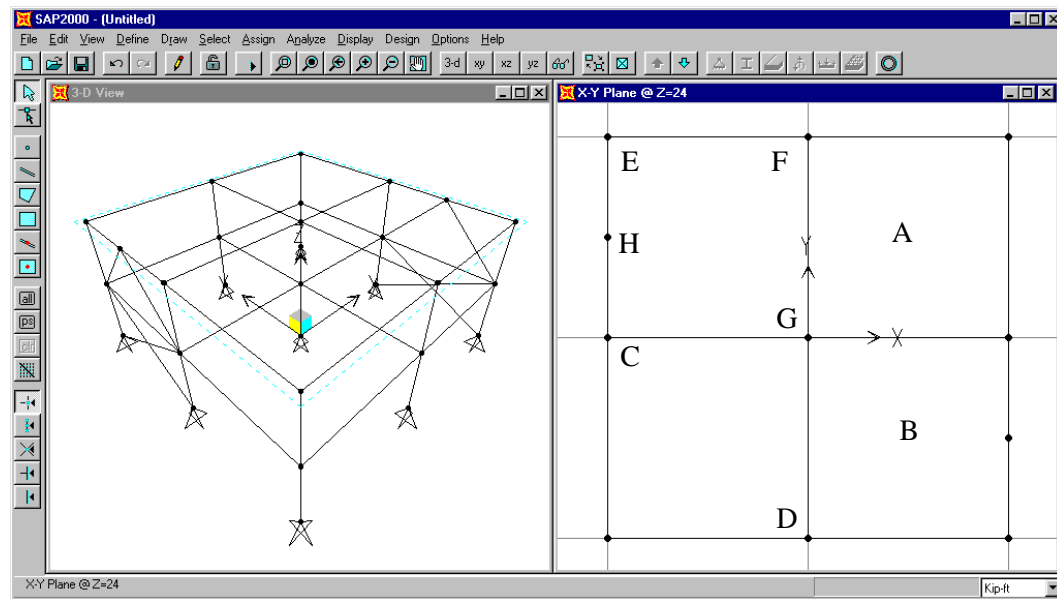
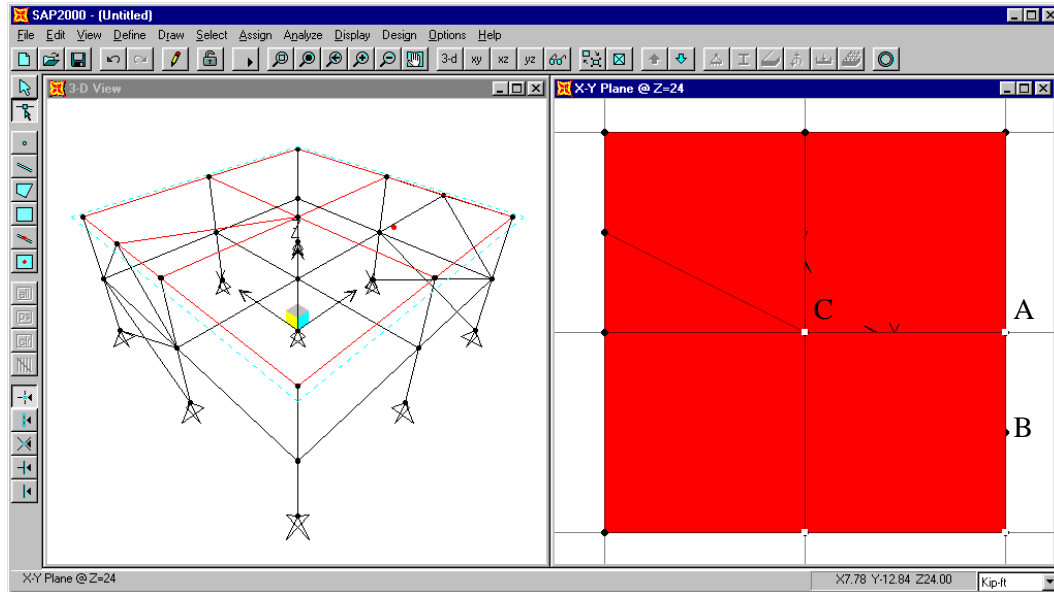

Figure C-6: Shell Element Input
Figure C-7: Reshape Shell Element
29. Click in the area labeled “A” in Figure C-6 to input the first shell element. Note that a quick Shell element is drawn by clicking in a grid space, bounded by four grid lines.
32. Click in the area labeled “B” in Figure C-6 to input a second shell element. Note that this element will be reshaped in a subsequent step.
34. Click on the point labeled “C” in Figure C-6 and then click the point labeled “D” to input the next shell element. Note that a rectangular Shell element is drawn by clicking to define two corners that are diagonally opposite of each other.
36. Click on the points labeled “E”, “F”, “G” and “H” in Figure C-6, in that order, to draw a quadrilateral shell element.
37. Click on the points labeled “H”, “G”, “C” and “H” in Figure C-6, in that order, to draw a triangular shell element.
39. Click once on the shell element in the lower right-hand corner (drawn in item 29 in the area labeled “B” in Figure C-6) to highlight it. Note that member end handles appear on the shell element as shown in Figure C-7.
40. Click on the point labeled “A” in Figure C-7, and while holding down the left mouse button, drag the member end handle to point “B”.
42. Click the **Draw Quadrilateral Shell Element** button  on the side toolbar (or select **Draw Quad Shell Element** from the **Draw** menu). Then click on the points labeled “C”, “A”, “B” and “C” in Figure C-7, in that order, to draw a triangular shell element.